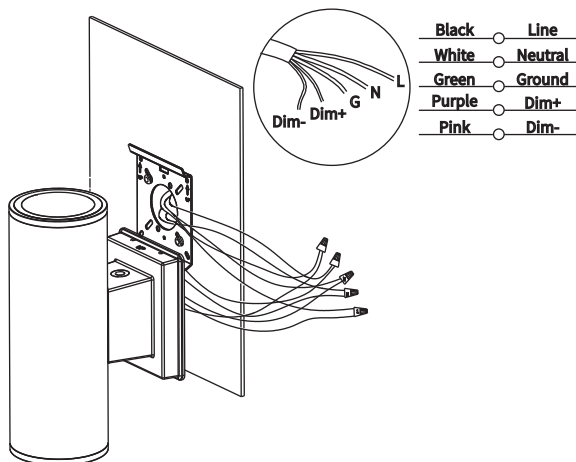

fig. 5
5. Make appropriate electrical connections according to the wiring diagram. (Figure 5)